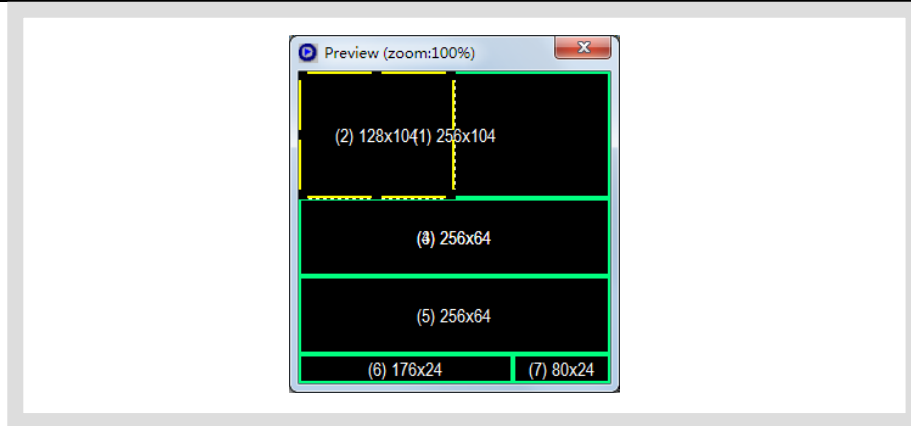

Figure17 Editing of size and position of window in preview window
- ☞ Visual interface of **windows** adjusting: when a “**Program**” or “**Window**” is selected in the playbill, the mapping position of each **windows** in current **program** will appear in the preview window. The frame of current **window** is bright yellow while the others are green, as shown in Figure17. The position and size of each **window** can be adjusted freely by use the mouse to drag the black block on the frame.